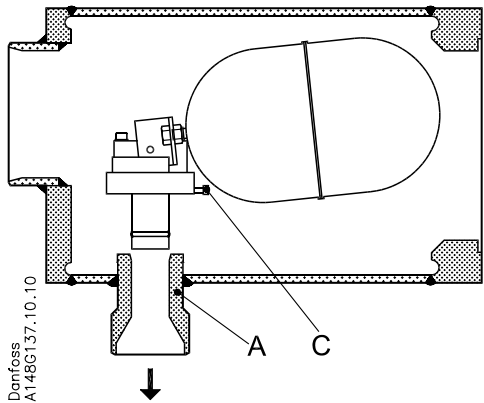
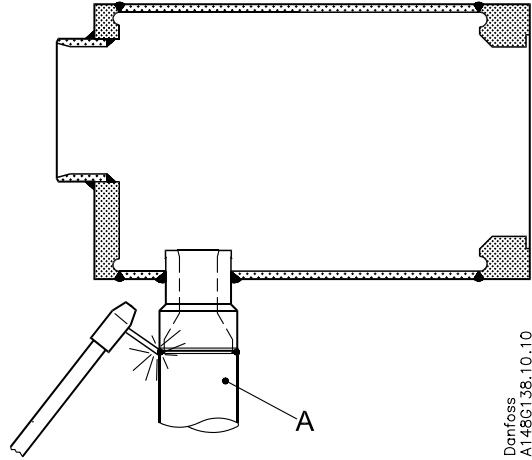

fig. 1
fig. 2
Mount the float valve horizontally with the outlet branch pos. A (fig. 1) vertically downwards.
The flow direction has to be from the flanged inlet as indicated with the arrow (fig. 1).
- Unscrew the screw pos. C (fig. 1) and lift up the float assembly from the outlet.
- Weld the outlet branch pos. A (fig. 1) into the plant as shown in fig. 2.
NB! When demand is heavy at low temperature operation, we recommend to check the velocity in the outlet branch. If necessary the diameter of the pipe which is welded on to the outlet branch pos. A (fig. 1) can be increased.